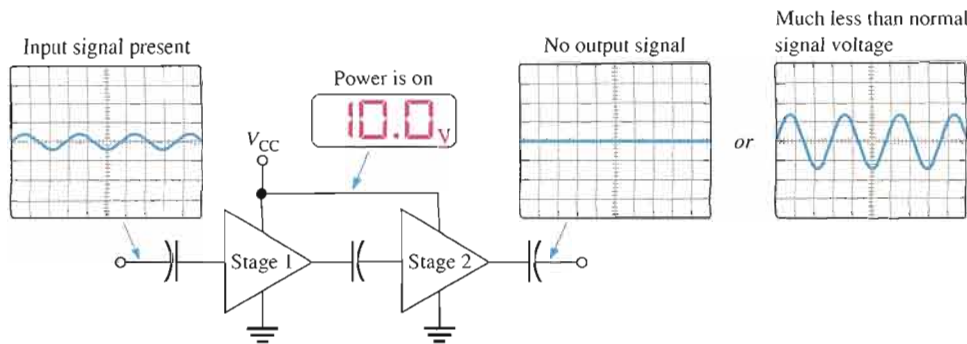

FIGURE 6-43
- Step 1:** *Perform a power check.* Assume the dc supply voltage is correct as indicated in Figure 6-43.
- Step 2:** *Check the input and output voltages.* Assume the measurements indicate that the input signal voltage is correct. However, there is no output signal voltage or the output signal voltage is much less than it should be, as shown by the diagram in Figure 6-43.